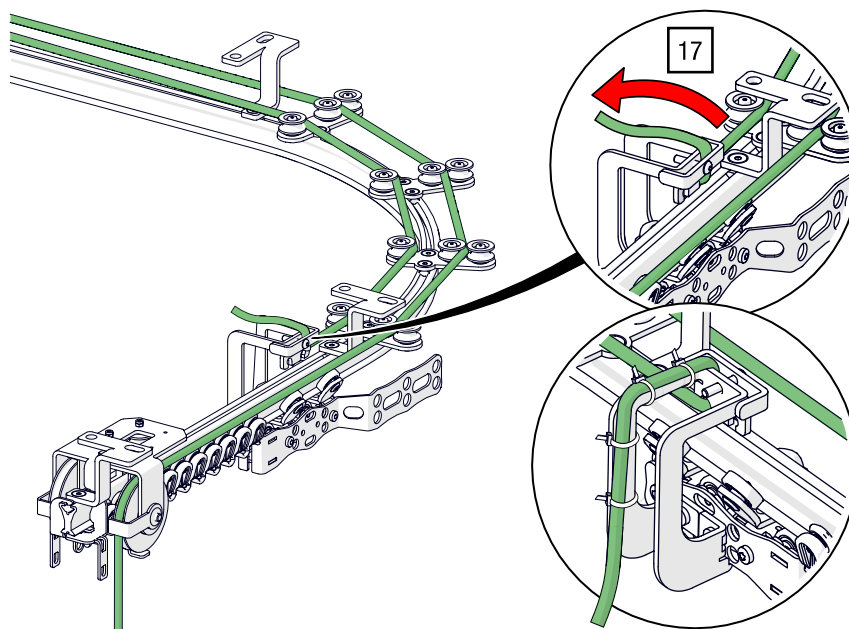

Fig. 81: Top cord operation – Insert cord end into master runner on one side
17. Insert the cord end into the clamping unit on the master runner on one side and secure it to the sheet metal at several positions with four tie wraps (see Fig. 81).